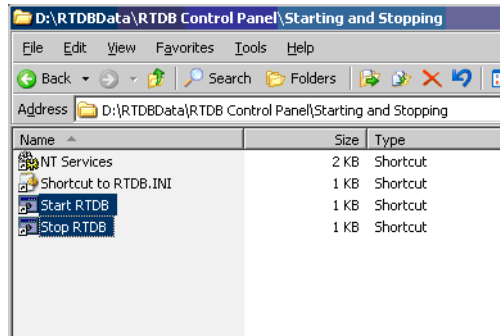

Figure 96. Start and Stop Real Time History batch files (selected)
2. Double-click the **Start and Stopping** folder to open it. The Start RTDB and Stop RTDB batch files will be displayed as shown in Figure 96
2. Double-click the **Start and Stopping** folder to open it. The Start RTDB and Stop RTDB batch files will be displayed as shown in Figure 96.